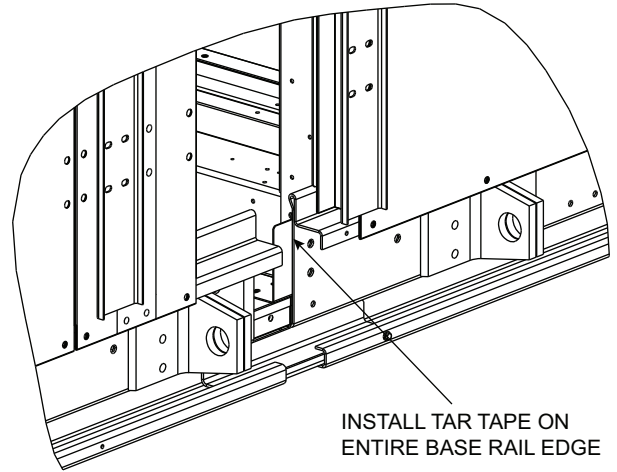

Fig. 61 — Tar Tape Location
9. Install tar tape on edge of main unit base rails to seal base rail splice. See Fig. 61.